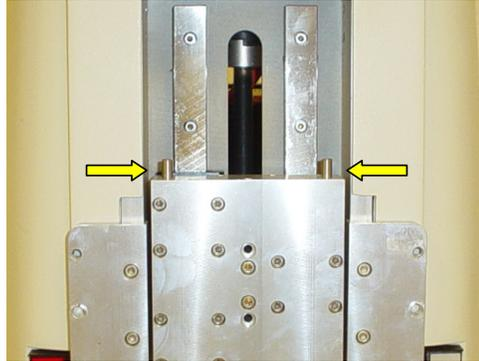

Figure 5-13: Guide pins to align syringe head with for reattachment on Hydra DT tower.
1. Align the top of the head with the two guide pins on the syringe head back plate. The syringe head should slide in place with minimal force. See Figure 5-13 for replacing the syringe head on Hydra DT tower.